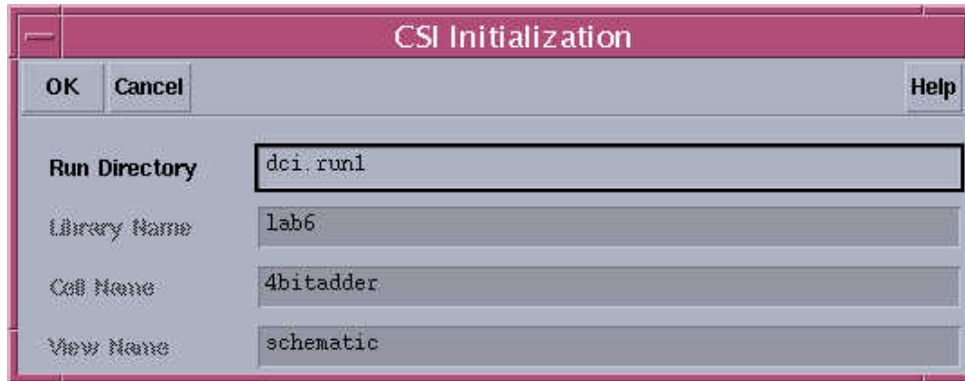

Figure 4. CSI Initialization.
1. Go to **Tools->Design Synthesis->CSI** and a window will open as shown in Figure 4.